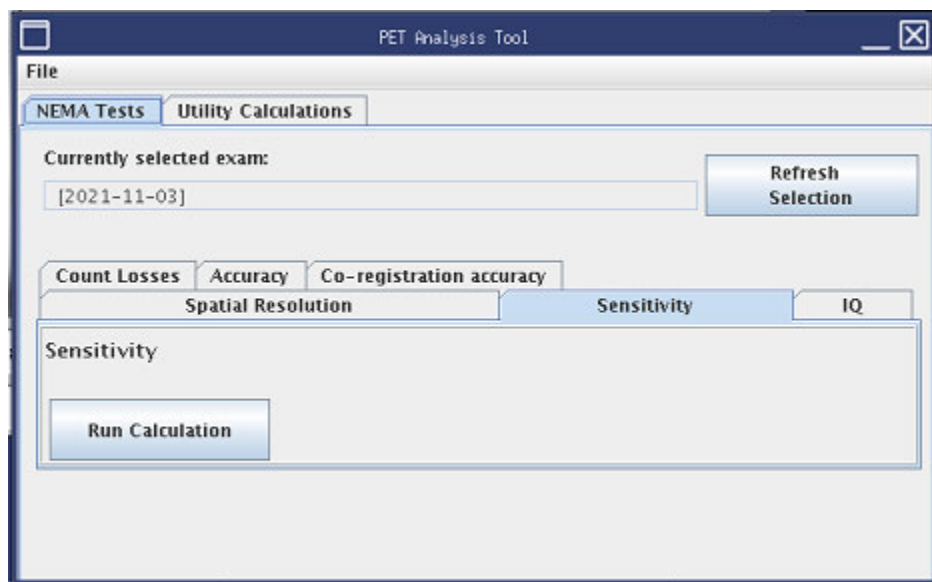

Figure 3.9: PET Analysis Tool - Sensitivity Tab Selected.
9. Refer to Figure 3.9. With all five series highlighted, click RUN CALCULATION.